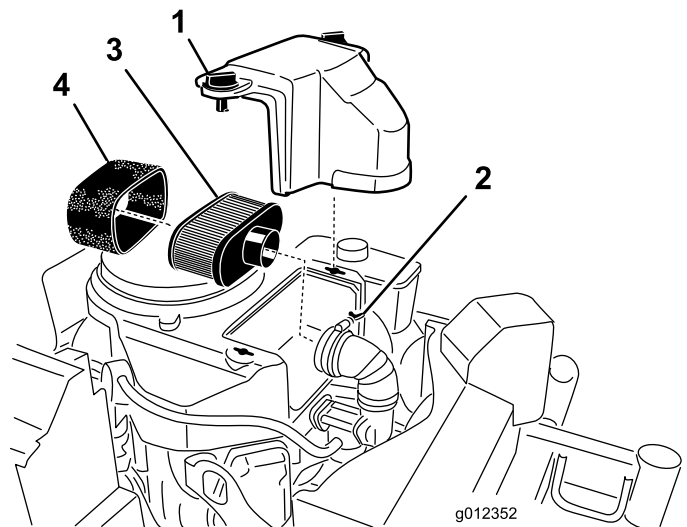

Figure 27
3. Clean around the air cleaner to prevent dirt from getting into the engine and causing damage (Figure 27).
4. Unscrew the cover knobs and remove the air cleaner cover (Figure 27).
5. Unscrew the hose clamp and remove the air cleaner assembly (Figure 27).
6. Carefully pull the foam element off the paper element (Figure 27).
1. Do not clean the paper filter, replace it (Figure 27).
1. Carefully slide the foam element onto the paper air cleaner element (Figure 27).
2. Place the air cleaner assembly onto the air cleaner base and secure it with the 2 wing nuts (Figure 27).
3. Place the air cleaner cover into position and tighten the cover knob (Figure 27).